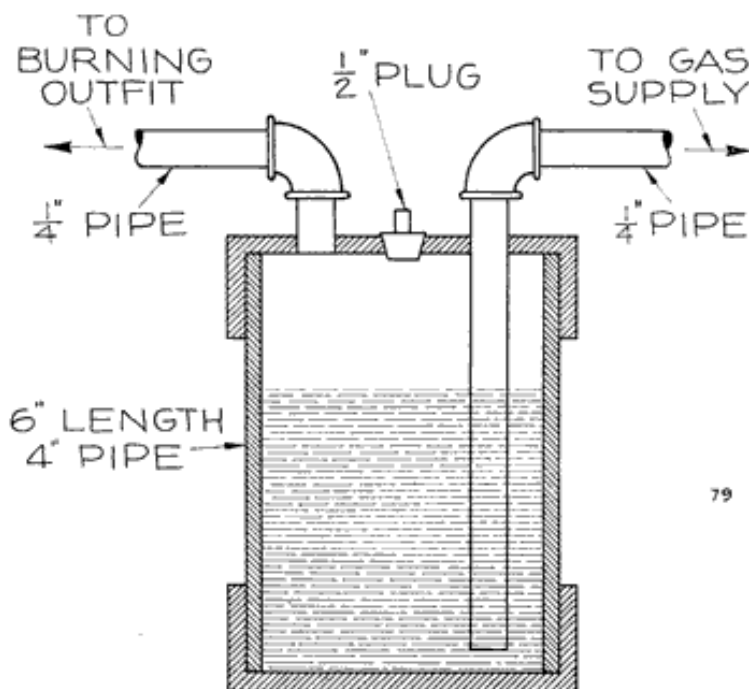

Fig. 78. Hydrogen-Oxygen Lead Burning Outfit. A and B are Regulating Valves. C is the Safety Flash Back Tank. D is the Mixing Valve. E is the Burning Tip.
- 2. Oxygen and Hydrogen Under Pressure in Separate Tanks, Fig. 78.** The flame is a very hot one and is very nearly as satisfactory as the oxygen and acetylene.